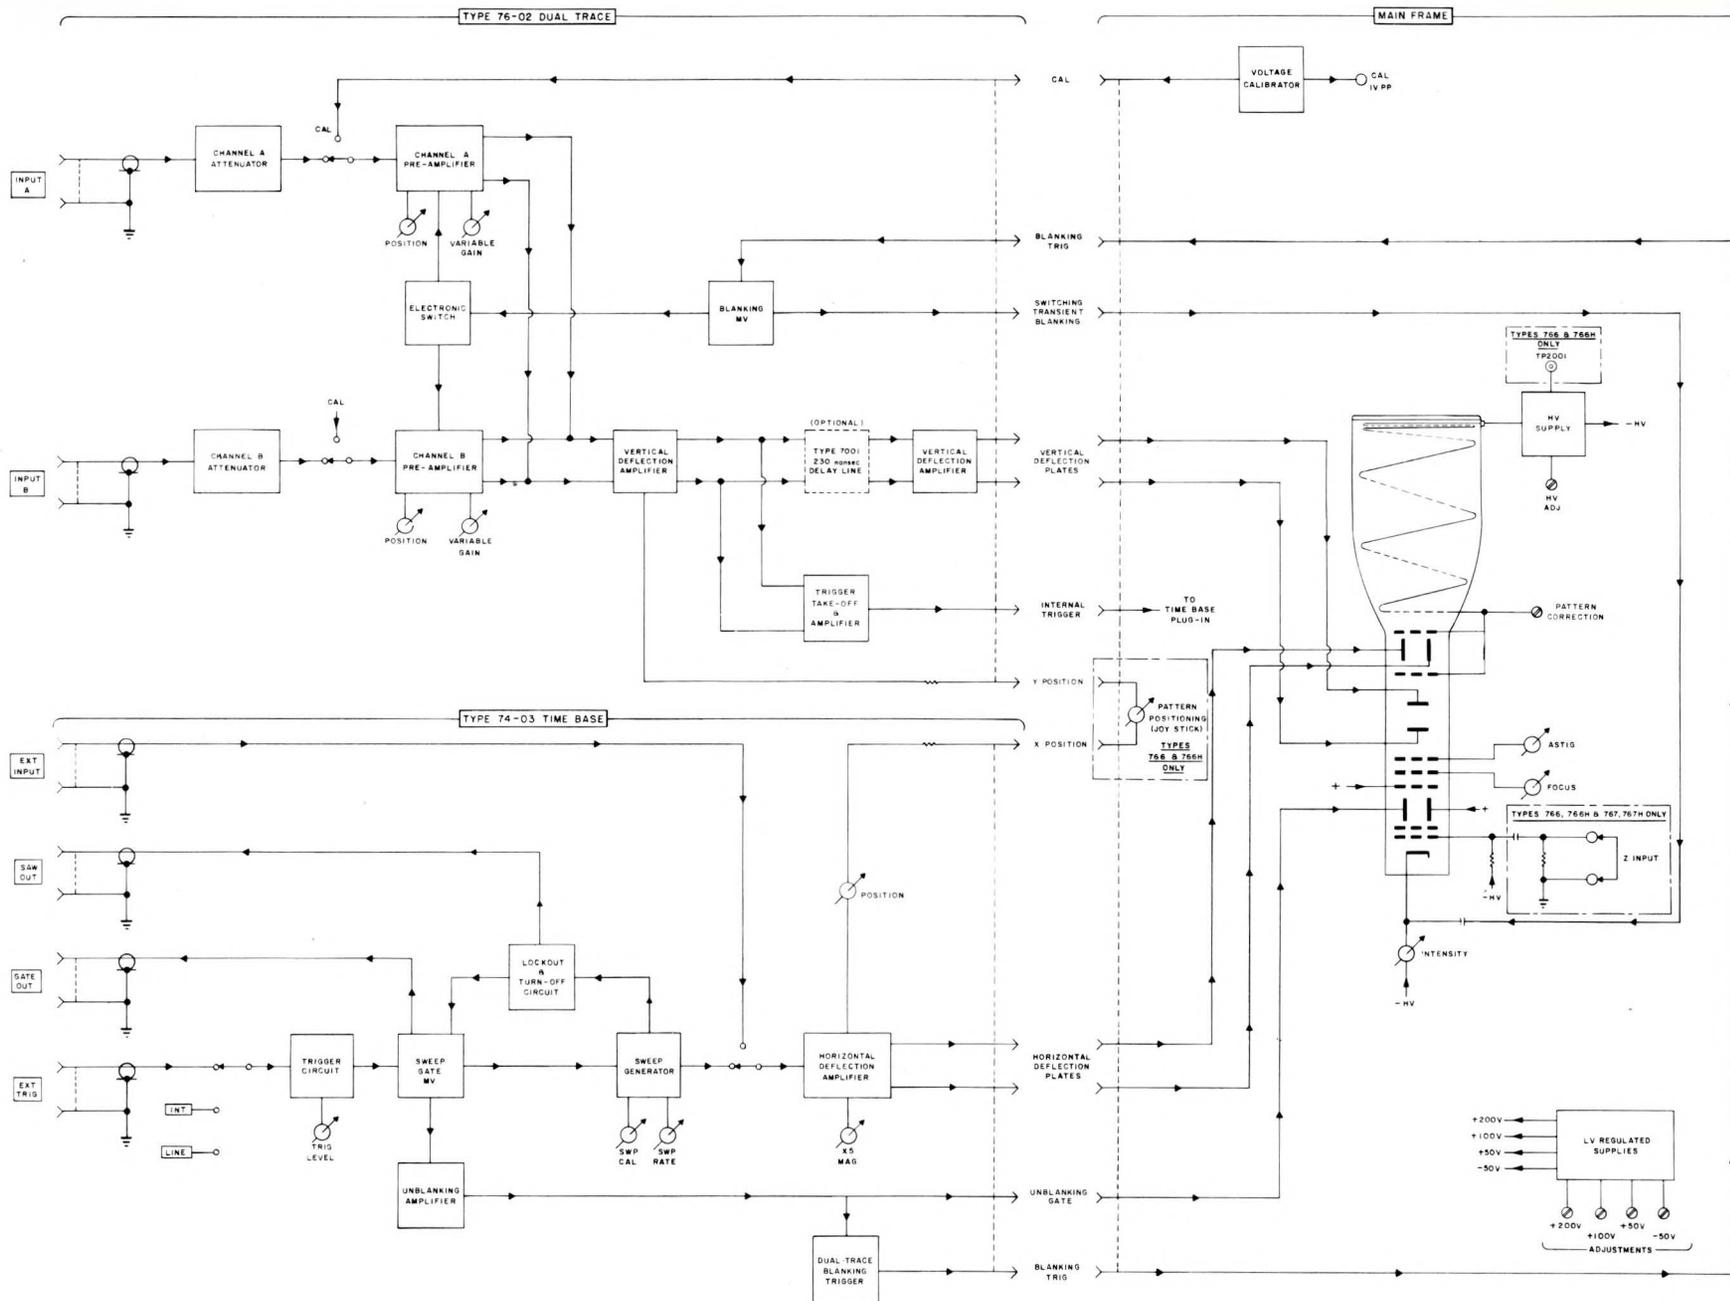

FIGURE 2-1. OVER-ALL BLOCK DIAGRAM
2-7. SERVICING HINTS (Figure 2-1)
1. Remove the side covers and inspect for faulty components. Check the fuses in each power supply buss. Measure the voltages at the test points in the Main Frame. If all the above are within specifications, the problem will most likely be in the plug-ins. It is suggested that other plug-ins known to be operating properly be inserted on a substitution basis. The faulty plug-in is thereby isolated and may now be given remedial attention. Refer to Figure 2-1 for an over-all functional block diagram of the system.